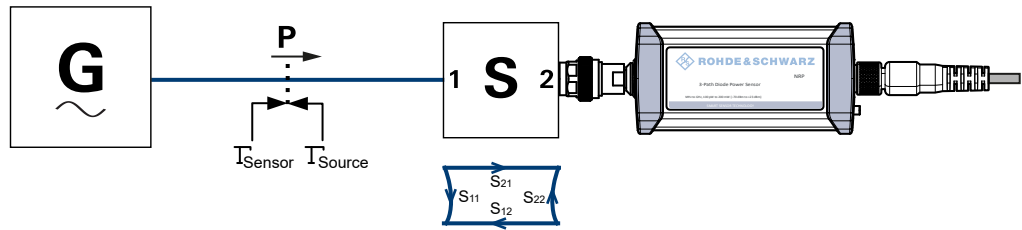

Figure 9-3: Correction of interactions between the power sensor, the signal source, and the S-parameter device
The interaction between the complex reflection coefficient Γ_{sensor} of the power sensor and the reflection of port 2 is expressed by s_{22} , see Figure 9-3. If the S-parameter correction is enabled, this interaction is always considered, regardless whether gamma correction is performed or not.
- S-parameter device if the S-parameter correction is enabled, S11 in Figure 9-3.